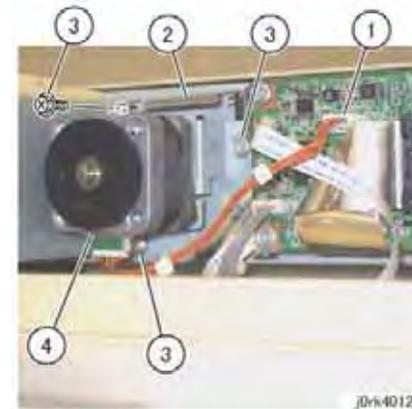

Figure 1 Carriage Motor Removal
3. Remove the Carriage Motor (Figure 1)